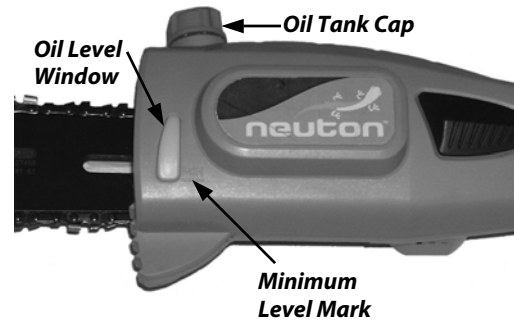

Figure 7
- Before starting the Saw, remove the Oil Tank Cap (**Figure 7**) and add #32 Bar & Chain Oil to the top of the Oil Level Window (**Figure 7**). One (1) minute of use will consume approximately 0.15 fl. oz. (5ml) of oil. Refill when the oil level drops to 1/4 of a tank.